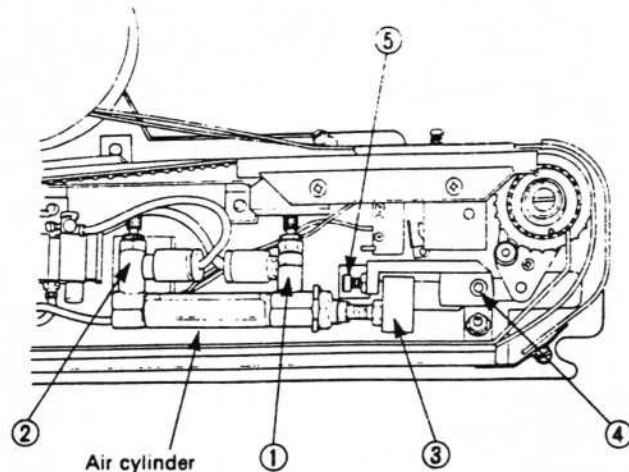

Fig. 21
- (10) Gradually open up the speed controller ① (counterclockwise) and tighten the speed controller lock nut when the block ③ contacts the switching block ④ (see Fig. 21).
- (11) Stop the program and shut down the speed controller ② (clockwise) (see Fig. 21).
- (12) Set the tape knock UP TIME and DOWN TIME with the PC 8801 as below:
- (13) Run the program to move the head's tape knock pin UP/DOWN and operate the tape feeder's air cylinder.
- (14) Gradually open up the speed controller ② (counterclockwise), and tighten the speed controller lock nut when the block ③ contacts the screw ⑤ (see Fig. 21).
- (15) Stop the program and set the UP TIME and DOWN TIME with the PC 8801 as below:-